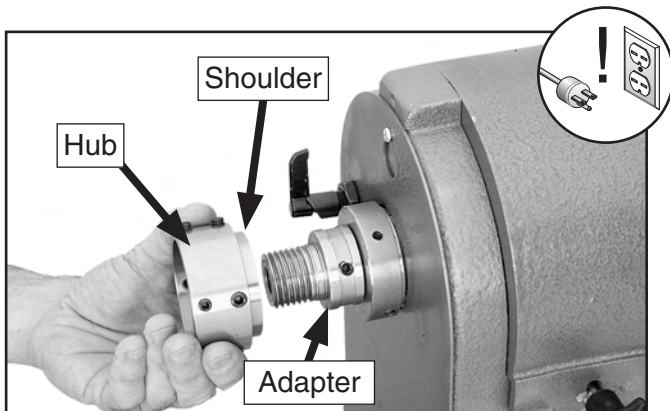

Figure 70. Threading on mounting hub.
28. Slide the mounting hub onto the adapter (see **Figure 70**), making sure the shoulder of the hub faces the headstock, then tighten the inner set screws on the hub.